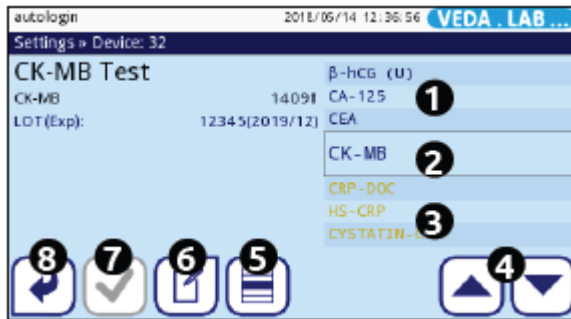

Figure 15: The Settings»Device screen
Key to **Figure 15**:
- 2 In the **Settings»Device** screen that pops up, use the up and down arrow keys (labelled 4 in **Figure 15**) to move the cursor bar over the assay device type that you would like to exclude from the list of the **Select Device** screen.